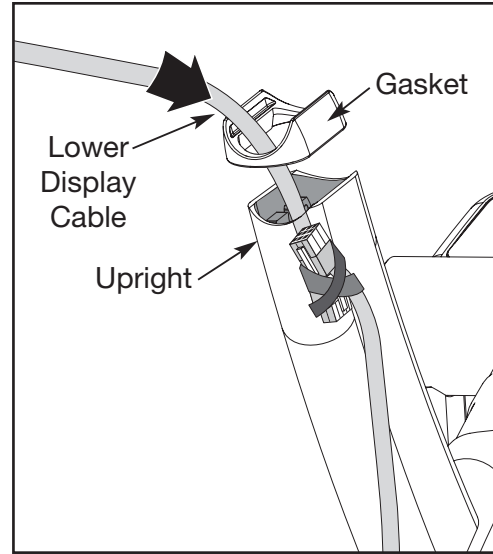

Figure 33
- B. Tape the new 10 pin connector to the old lower display cable. **NOTE:** Be sure to tape the correct ends together. See Figure 33.